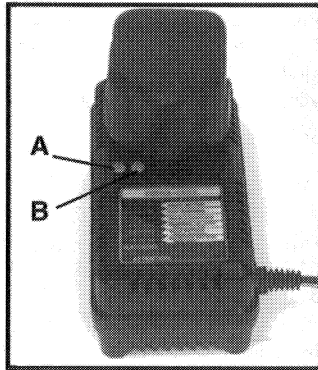

Fig. 5
Make sure power circuit voltage is the same as that shown on the charger specification plate. Connect charger to power source. The green light (A) Fig. 5, should begin to flash. This indicates the charger is ready to begin charging.
Position the battery pack to the charger, aligning the tongue on the battery pack with the slot in the charger. Insert battery pack into charger (see Fig. 5). **DO NOT FORCE**. If battery pack does not slide in easily, it is being inserted incorrectly: Realign battery pack tongue with charger slot and try again.
The green light (A) Fig. 5, should begin to glow continuously, indicating that the battery pack is receiving a "Fast Charge" (if the green light does not glow continuously, or if the red light (B) Fig. 5, also begins to flash: see **DIAGNOSTICS**). After approximately one hour, the "Fast Charge" indicator light should go out indicating that the battery pack is fully charged and that the charger is now in a "Trickle Charge" mode. The battery pack can be left on "Trickle Charge" until you are ready to use it.
The Model 8621 Charger is equipped with a diagnostic system that automatically checks the battery pack each time a pack is inserted into the charger. If no problems are found, the charger will automatically switch to "Fast Charge" mode as described in **NORMAL CHARGING**. If a problem is found, it will be indicated by the charger indicator lights (see Fig. 5), as follows: